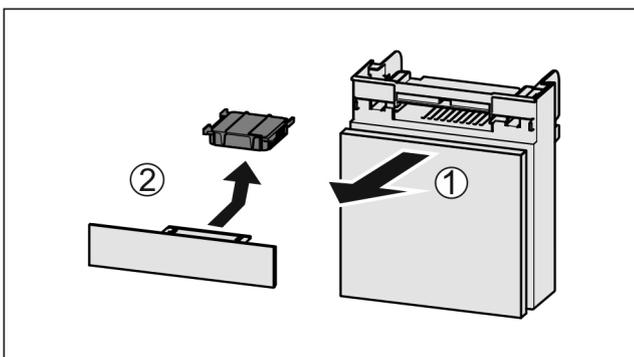

Fig. 148
- ▶ Pull out the compartment Fig. 148 (1).
- ▶ Remove the carbon filter Fig. 148 (2).